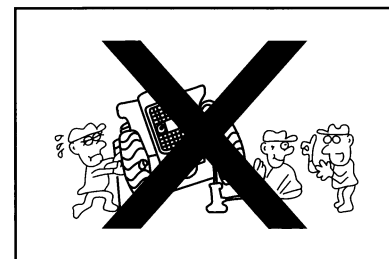

Figure 2-7
- Before jacking up the loader, block the other side wheels by wedges. After jacking up the loader, please put cushion under it. (Figure 2-7)